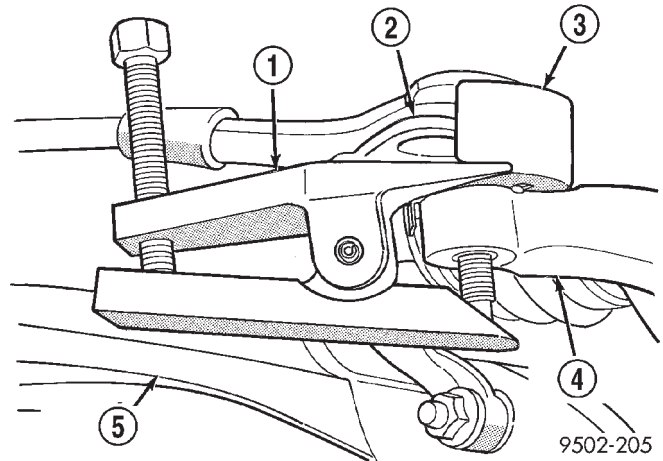

Fig. 44 Tie Rod End Removal From Steering Knuckle
(4) Remove the tie rod end from the steering knuckle using Remover, Special Tool MB-991113 (Fig. 44).